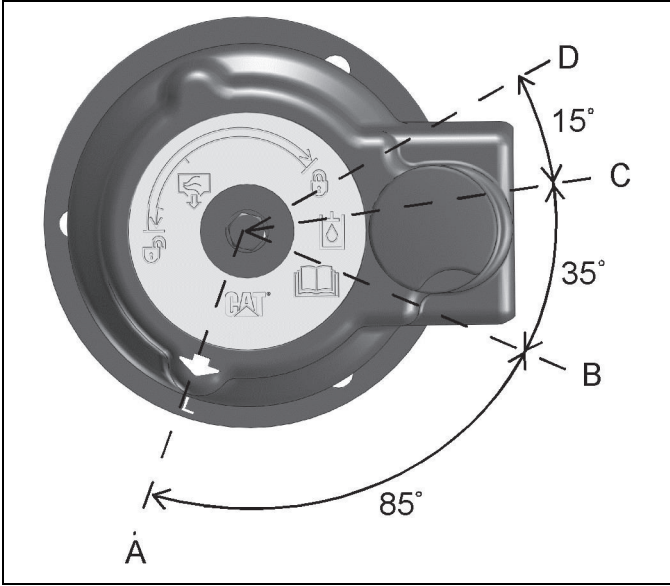

Figure 10-152: Filler Cap
4. Release the pressure that may be present in the return hydraulic circuit with the following procedure. Refer to Figure 10-152 for filler cap positions.
- a. Turn the filler cap counterclockwise and move the arrow from position (A) to position (B).
- b. Release the pressure for a minimum of 45 seconds by moving the arrow from position (B) to position (C).
- c. Move the arrow from position (C) to position (D).
- d. After the tank pressure is relieved, tighten the filler cap on the hydraulic tank to position (A).